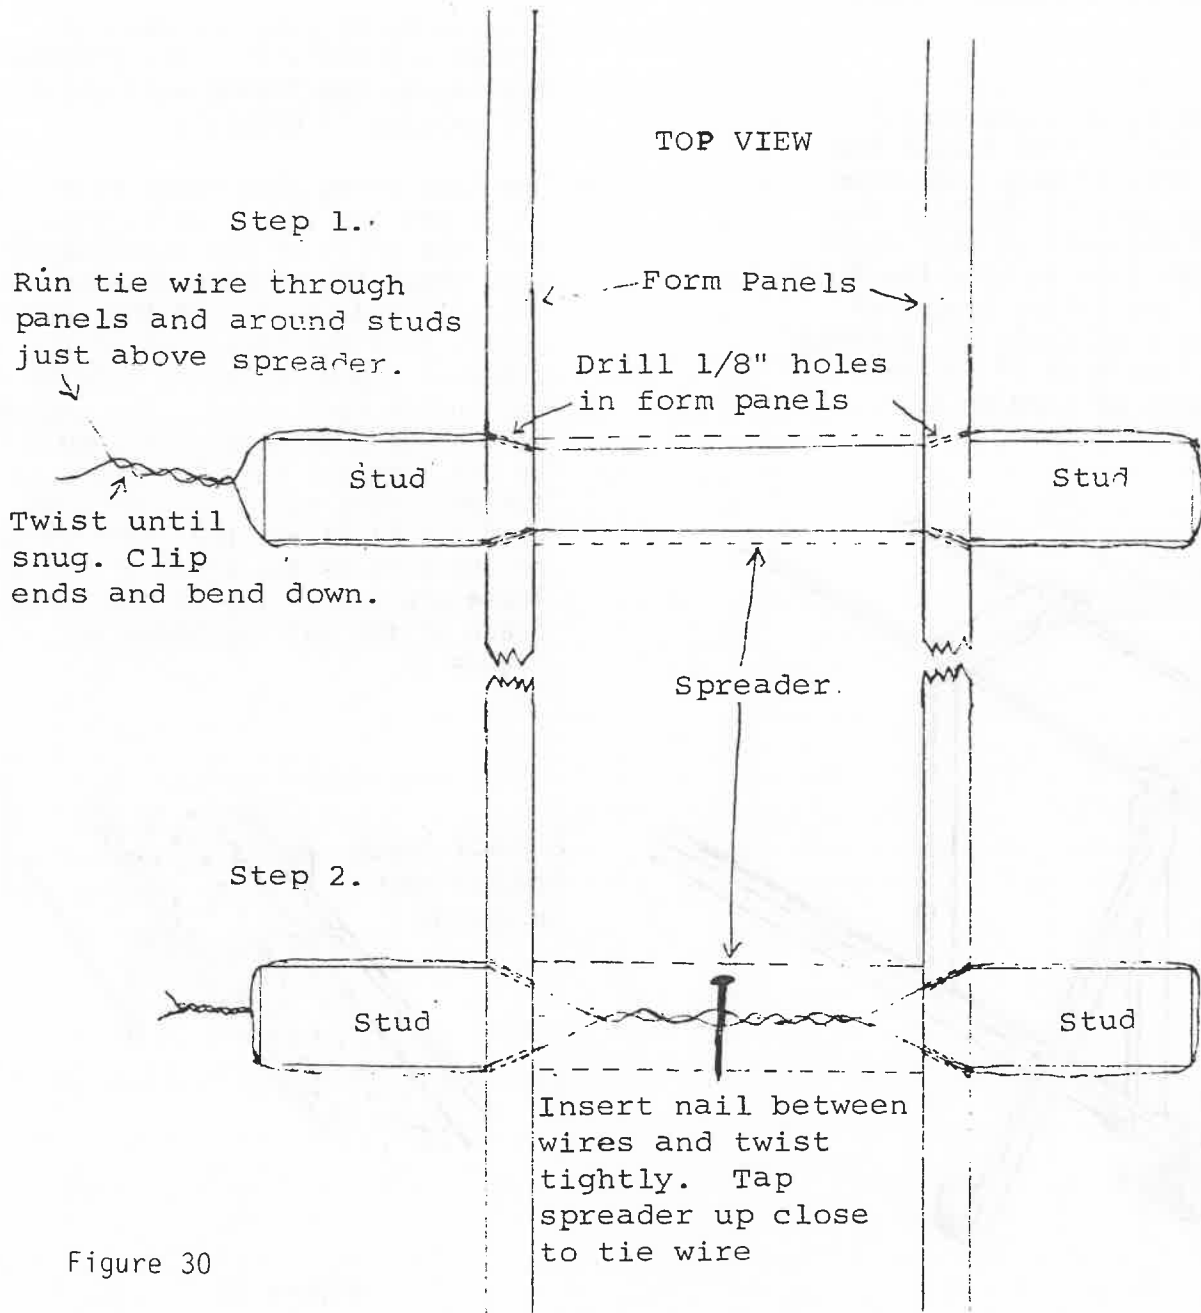

Figure 30
6. About an inch and a half above the spreader, drill a one-eighth inch hole through the form panel on each side of the studs and proceed as shown in Figure 30, Steps 1 and 2. This will hold the spreader in place until the concrete is placed. Do not nail the spreader to the